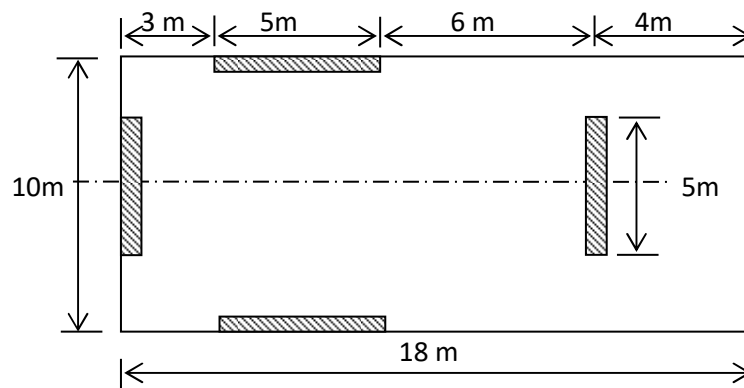

Fig. 2
5. Plan of a building having 4 identical shear walls, each 5m long and 200 mm thick is shown in Fig. 2. Determine the design lateral forces in shear walls if the storey height is 4 m and the seismic force on the building is 350 kN in either direction. Assume M 25 grade concrete.